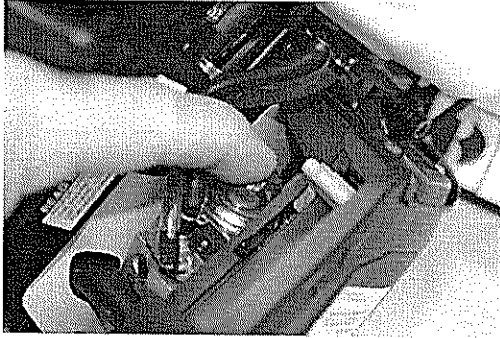

FIGURE 3
- With left hand, depress engine primer system bulb repeatedly until fuel can be seen in clear plastic fuel line and primer bulb. FIGURE 3